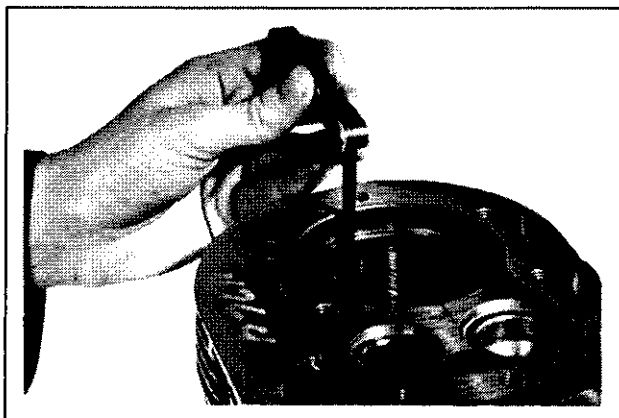

Figure 10-13. Measuring Piston Ring End Gap.
3. Before installing new rings on piston, place top two rings, each in turn, in its running area in cylinder bore and check end gap (see Figure 10-13). This gap should be .010"/.032" in a used cylinder bore and .010"/.023" in a new cylinder bore.